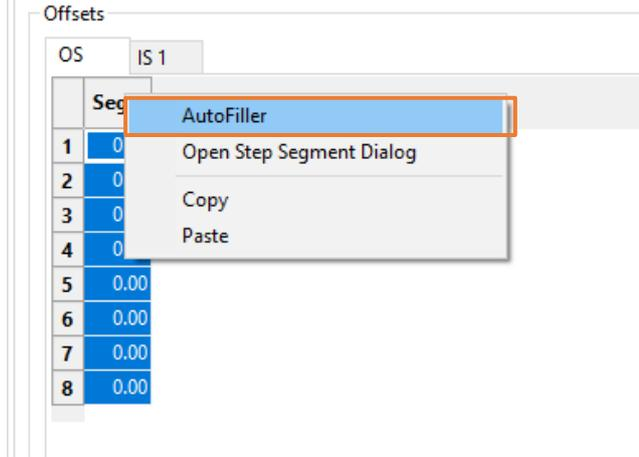

Figure 195
- We can change the outer segment offset values manually or we can also use the autofiller tool. To do this, right-click on the Seg1 label and select the **[AutoFiller]** (Figure 195).